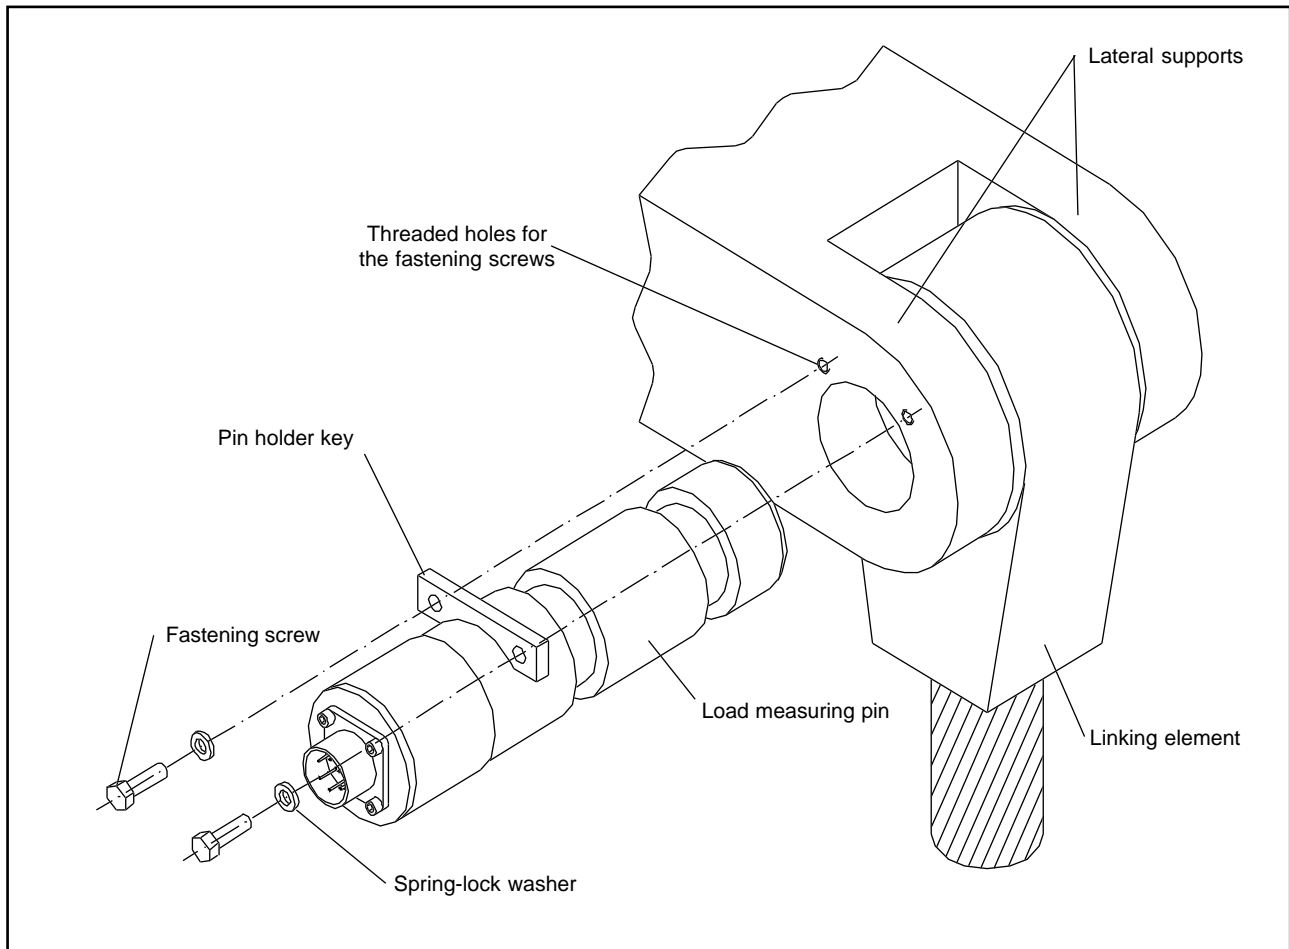

Fig. 4-4 : Positioning of the load measuring pin.
- 6) Position the load measuring pin facing the bores in which it will be seated (see figure 4-4). Turn it so that the mortise for receiving the pin holder key is facing upward and perpendicular to the applied force.